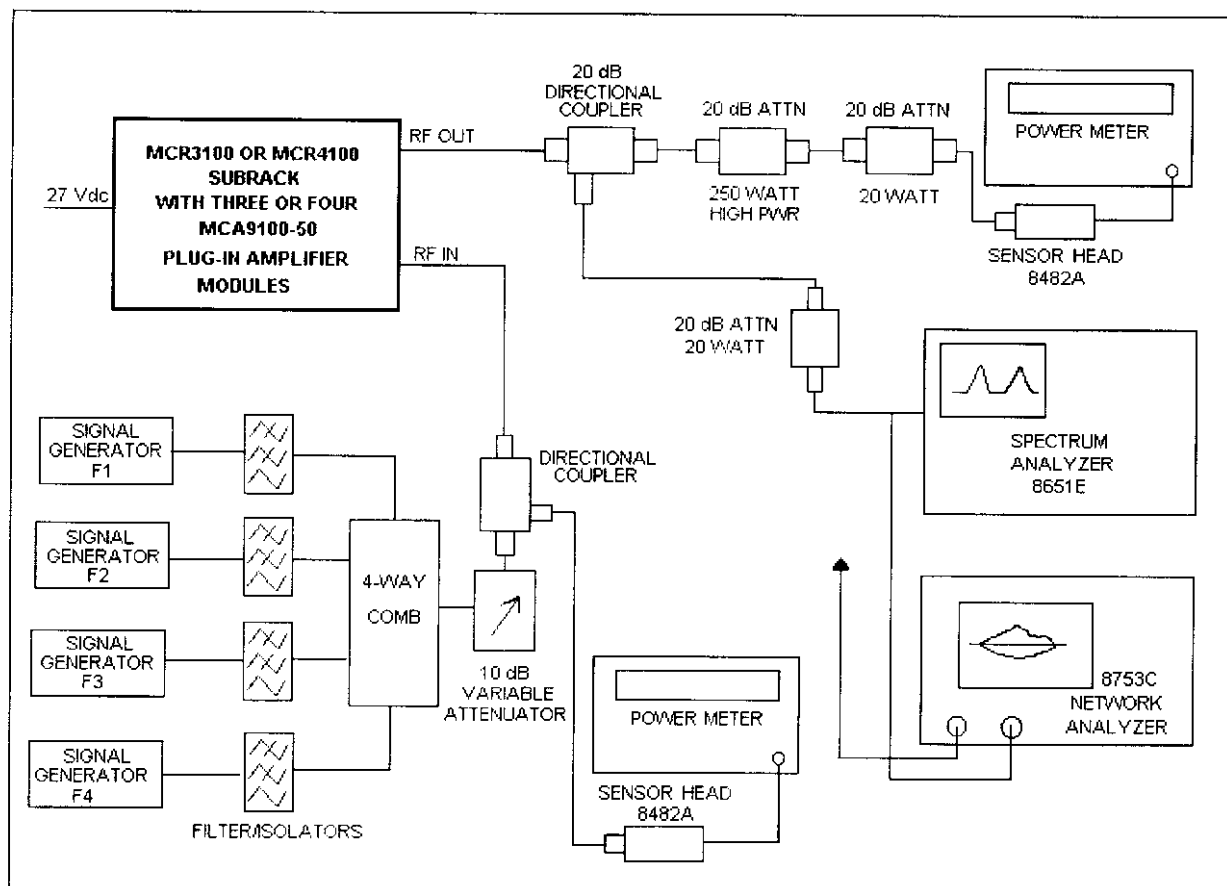

Figure 5-1. Amplifier System Test Setup Diagram
Performance testing should be conducted every 12 months to ensure that the amplifier system meets the operational specifications listed in table 5-3. Also verify system performance after any amplifier module is replaced in the field. The test equipment required to perform the testing is listed in table 5-2, and the test setup is shown in figure 5-1.
1. Connect test equipment to the subrack as shown in figure 5-1.